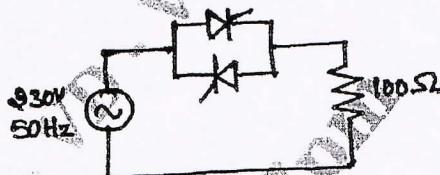

Fig.Q.8(c)
- c. Find the power consumed in the heater element if both SCRs are fired with delay angle of 45° for the Fig.Q.8(c). (05 Marks)